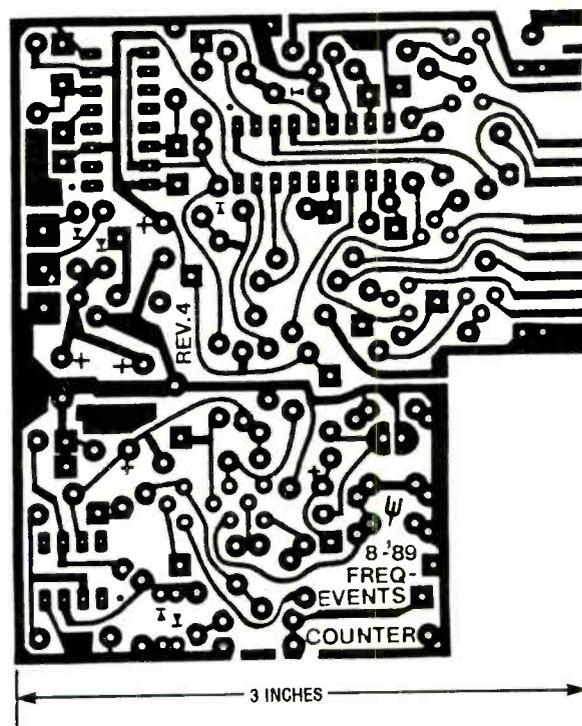

Fig. 2. The Budget Frequency/Events Counter was built on a printed-circuit board; shown here is a template for that board.
**Construction.** The Budget Frequency/Events Counter was built on a printed-circuit board, a template for which is shown in Fig. 2. (For those not inclined to etch their own board, an etched, drilled, and plated printed-circuit board is available, along with a list of sources for hard-to-find parts and a layout template for the front panel, from the supplier listed in the Parts List.)